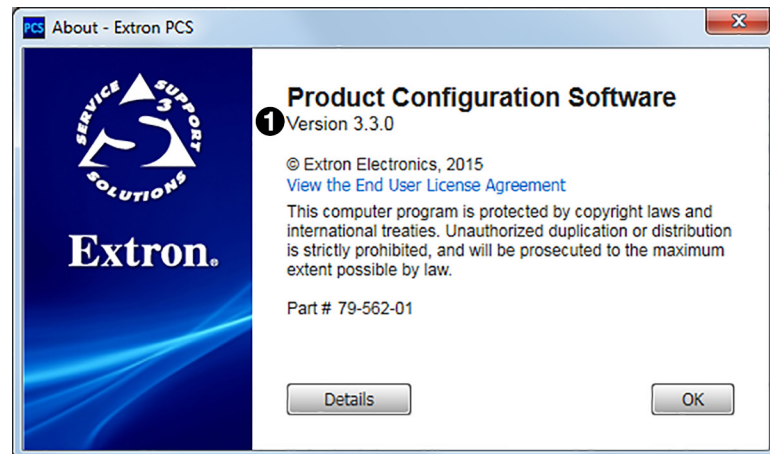

Figure 25. Software Version Number on the About PCS Screen
- b. After ensuring that the software version is 3.3 or higher (see figure 25, ①), click **OK** to close the window.